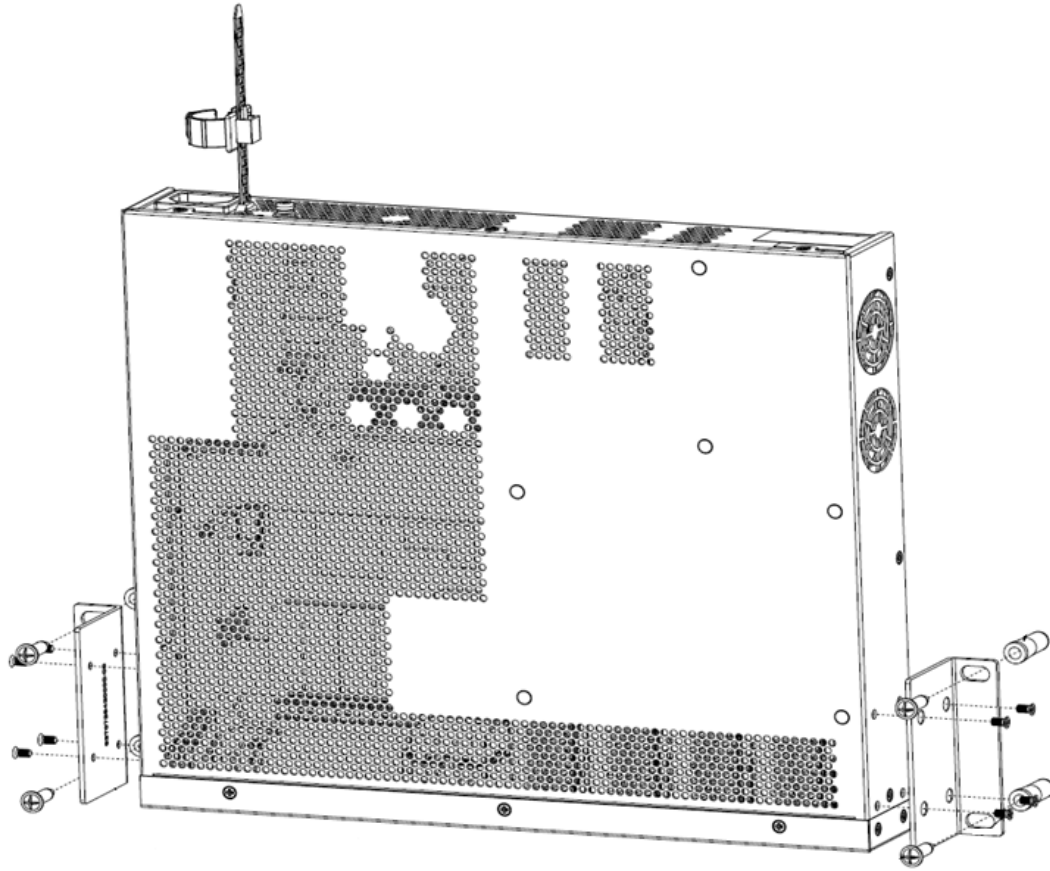

Figure 44: Wall-Mount: Attaching to a wall for models 4220-8X, 4220-4MW-8P-4X, 4220-12P-4X, 4220-12T-4X
3. Using rack mount screws, attach a wall-mounting ear to the left side of the switch, at the front end. Figure 44 shows the attachment of the screws.